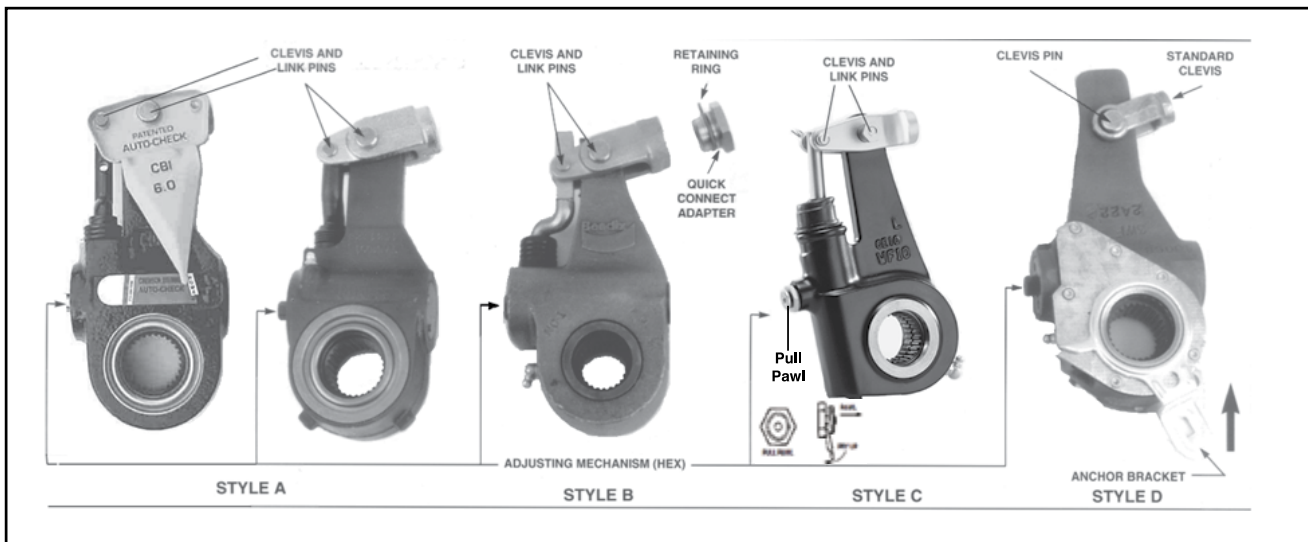

Fig. 2: Self-Adjusting Brake Adjuster Types
1. Remove the clevis and link pins and the anchor bracket nut or pawl, if necessary (see **Figure 2**).
7. Using the correct gauge or template, (see Fig. 2, Styles A, B, and C) check for the proper mounting angle.
- 7A. Rotate the adjusting mechanism to either install a clevis and link pin or to connect the clevis with a quick connect nut (see Fig. 2, Styles A, B, and C).
NOTE: Some adjusters in style D (see Fig. 2) are self-setting and are not provided with a pointer or alignment cut-out. Follow the manufacturer's instructions for proper installation.
NOTE: If the self-adjusting brake adjuster is equipped with a pawl, disengage the pawl for the brake adjustment by prying up the cap with a pawl tool or flathead and then properly reinstall the pawl (see Fig. 2, Style C). Tighten the pawl to 15 - 20 ft.-lbs.